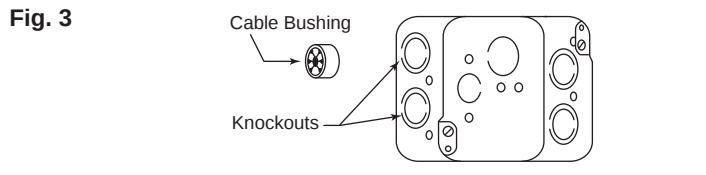

Fig. 4
- Attached supplied plasterguard as per Fig. 4 to ensure sensor mounting holes are positioned correctly.
- Attach supplied plasterguard as per Fig. 4 to ensure sensor mounting holes are positioned correctly.